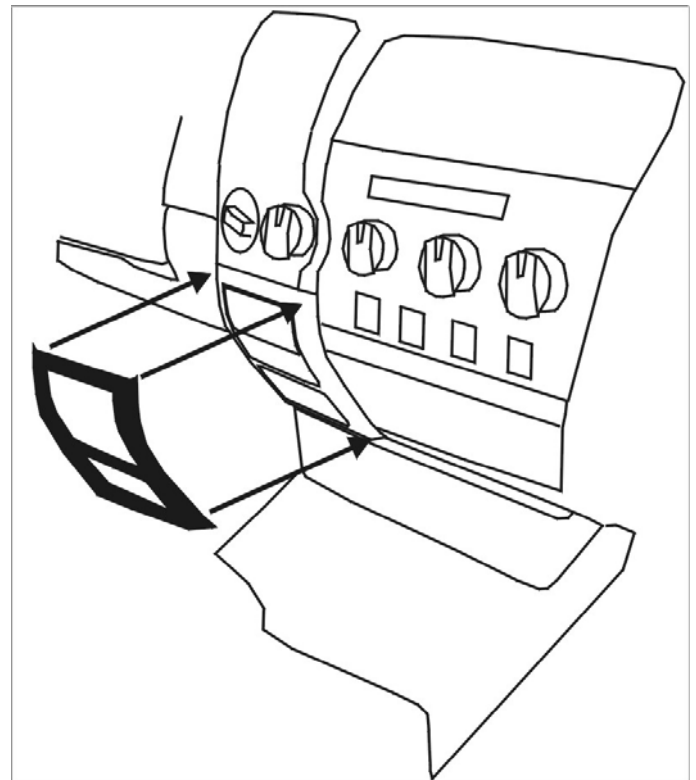

Fig. 4-1
(1) Remove the black center console (area including the cupholder) by lifting from the upper black area. Set aside until center console dash applique is secured.
(2) Depress brake pedal and move shift position into “neutral,” to position center console dash applique
(3) Align part uniformly to the edge of factory door component aligning all switch openings. (Fig. 4-1)